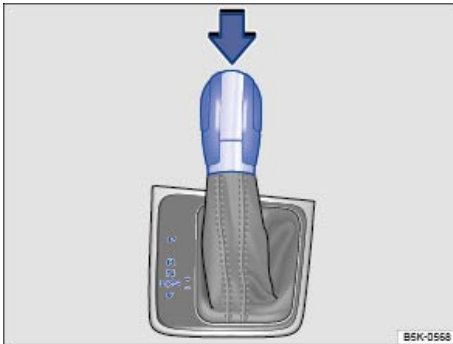

Fig. 130 Automatic transmission selector lever with shift lever release button (arrow).
Automatic transmission vehicles have an Automatic Shift Lock (ASL). With ASL, you must switch on the ignition, depress the brake pedal and hold it down while pressing the release button on the selector lever handle in the direction of the arrow ⇒ fig. 130 to move the selector lever out of Park (P) and into a drive gear. When the selector lever is in Neutral (N), you also have to depress the brake pedal before you can move the selector lever to Drive/Sport Drive (D/S), or Reverse (R).